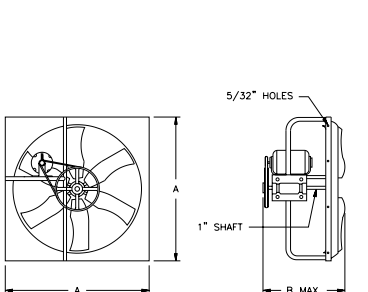

FIGURE 9.
19. Slide the fan into the framed opening in the wall, with the motor in the position shown in Fig. 9. Securely fasten with bolts or screws provided by the installer.